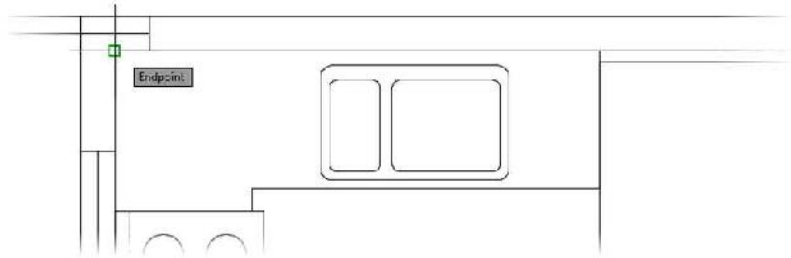

FIGURE 7.34: Setting the first tracking point to locate the window block
4. At the Specify insertion point: prompt, position the crosshair cursor over the intersection of the inside wall lines in the top-left corner of the cabin, as shown in Figure 7.34.